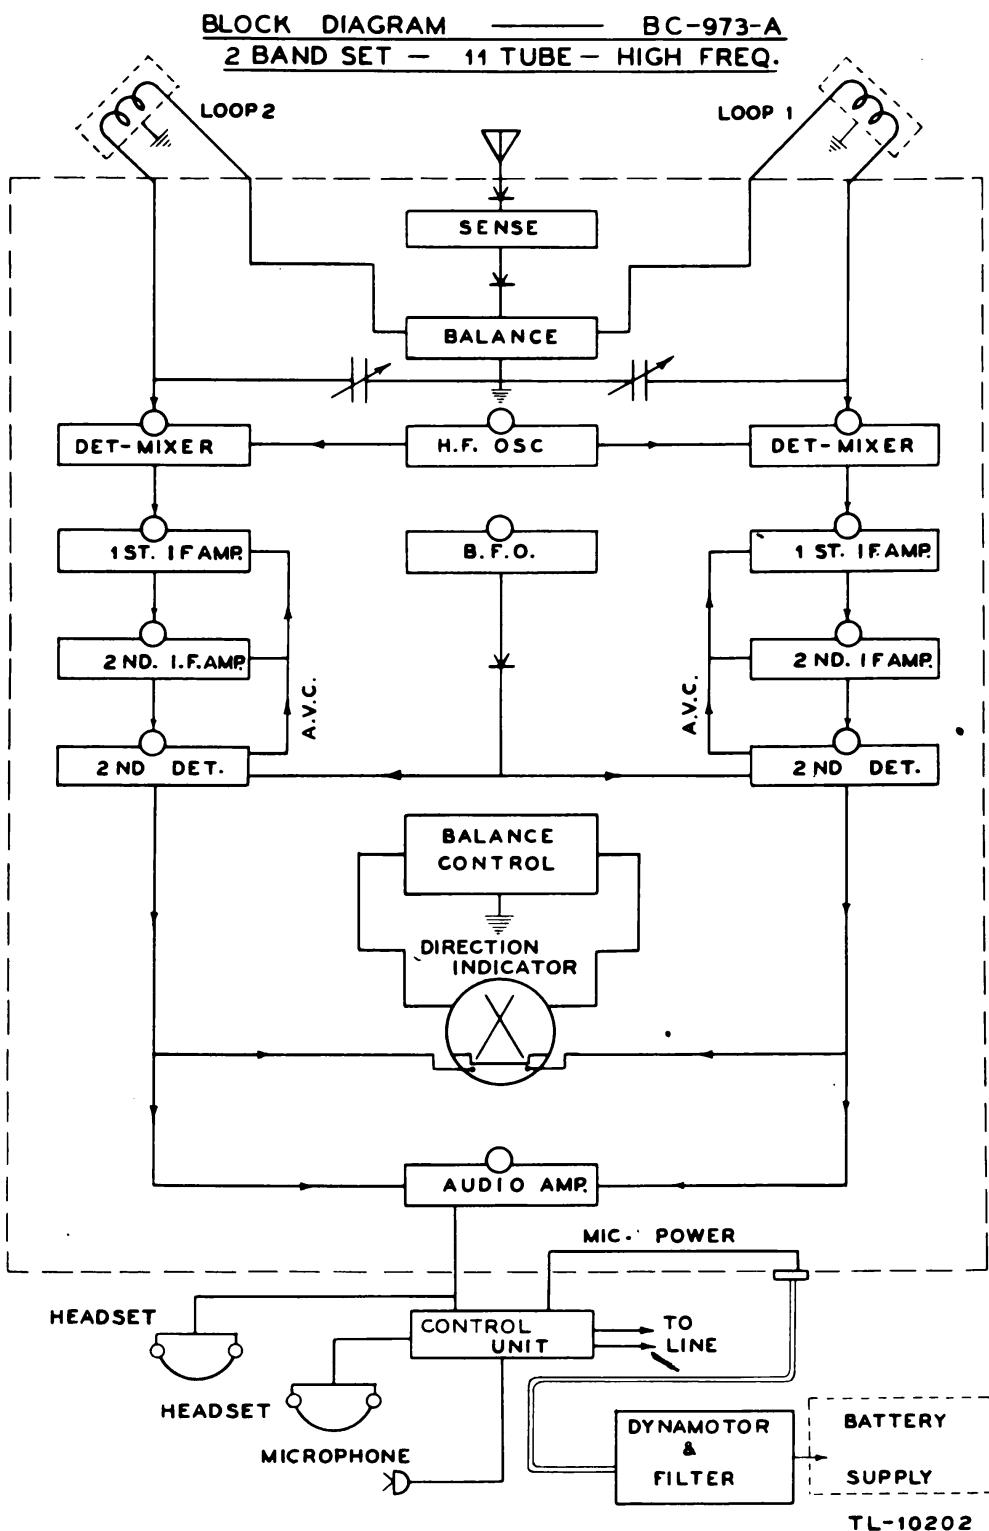

Figure 2. Radio Receiver BC-973-A, block diagram.
a. *Radio Receiver BC-973-A (2-band set).* Radio Receiver BC-973-A covers the range from 1-3 mc in two bands: band A, 1-2 mc; band B, 2-3 mc. The receiver uses 11 tubes in its twin channel circuit, each channel having two stages of i-f amplification, as shown in figure 2.